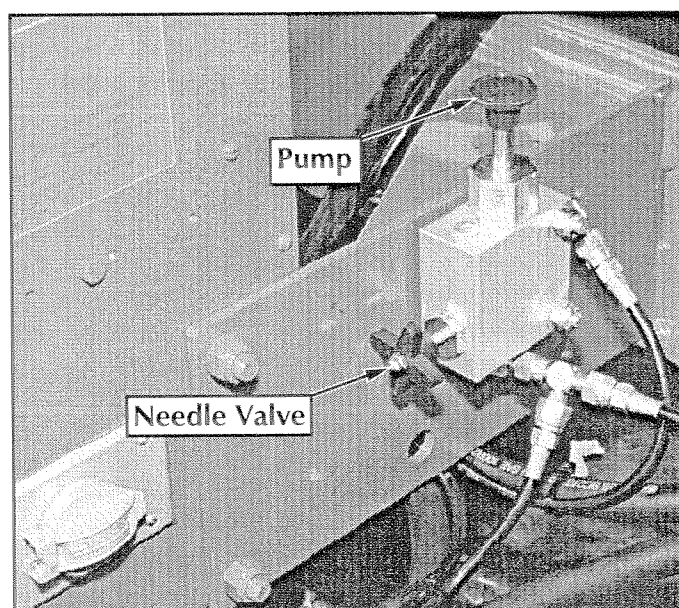

Figure 3-2: Brake Release Pump
3.5 Parking Brake Release (Figure 3-2)